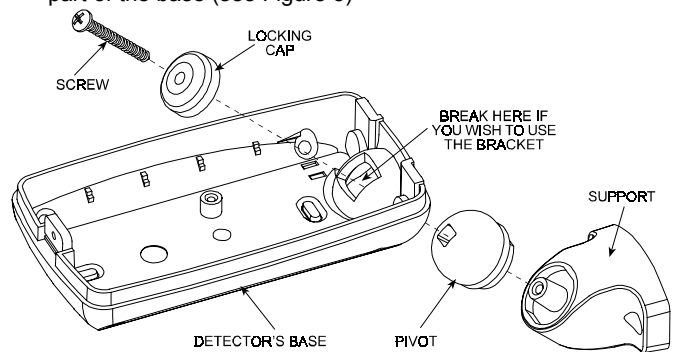

Figure 5. Attaching the Bracket
- C. Punch out the large knockout in the round bulge at the top part of the base (see Figure 5)
- D. Assemble the bracket as shown in Figure 5.